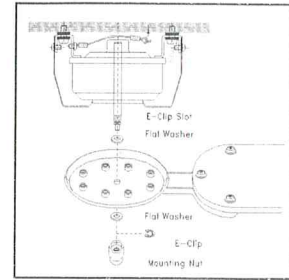

Figure 8
- Place one flat washer into the shaft of the fan motor. See Figure 8